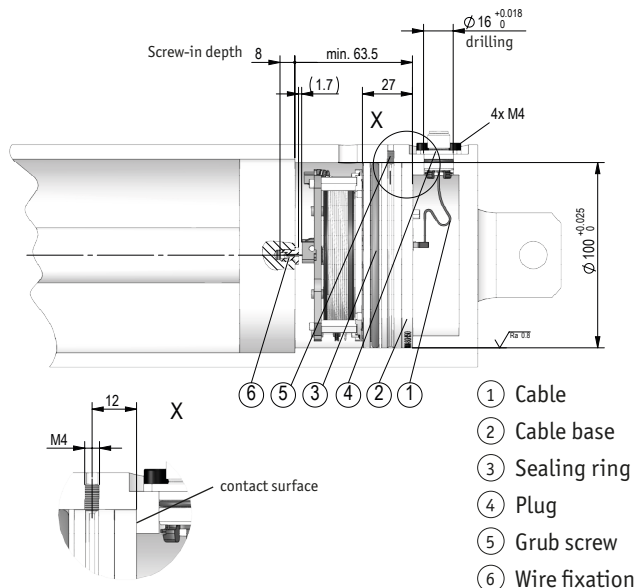

Fig. 3: Mounting in the cylinder
Mounting (Fig. 3):
3. Pull the plug insert ④ out through the plug outlet on the cylinder base. Join the plug insert with the flange enclosures incl. greased O-ring and screw it 4x at the intended position.
4. The axial fixing can be done with a securing bolt screw ⑤ as shown in Fig. 3. Tighten the threaded pin slightly (approx. 0.5Nm) and then turn back again approx. 0.5 turns.
For detailed information on installation refer to chapter 4.1 (Fig. 3)